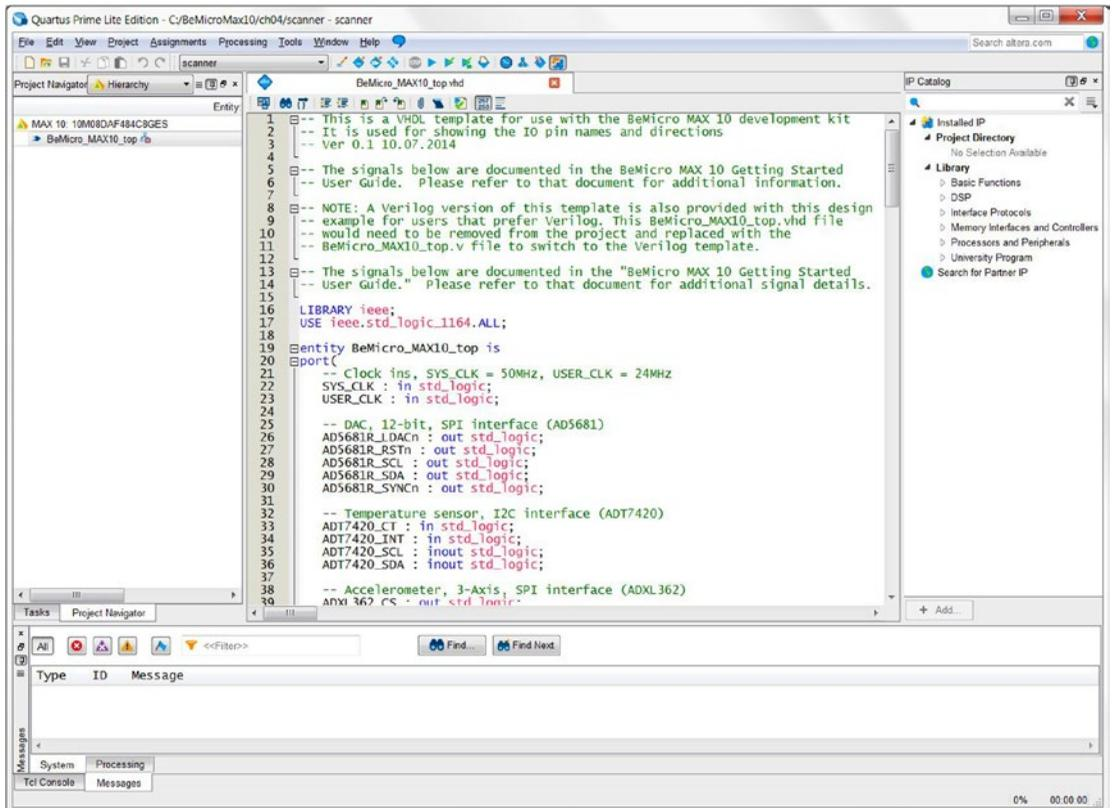

Figure 4-20. Open `BeMicro_MAX10_top.vhd` template file
4. Double-click **BeMicro_MAX10_top** in the Project Navigator. It will open the BeMicro_MAX10_top.vhd file in the middle of Quartus Prime (Figure 4-20).